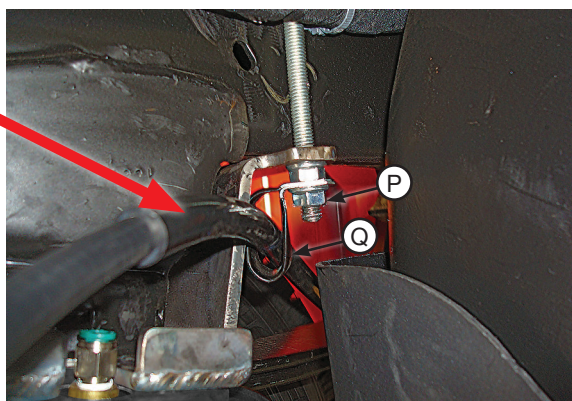

fig. 13
1. Attach the emergency brake cable removed in the "Getting Started" section with the emergency brake cable bracket (Q) and 3/8" serrated flange lock nut (P) (Fig. 13). Use the inside forward leg of the U-bolt on the driver's side for the attachment. Tighten securely.